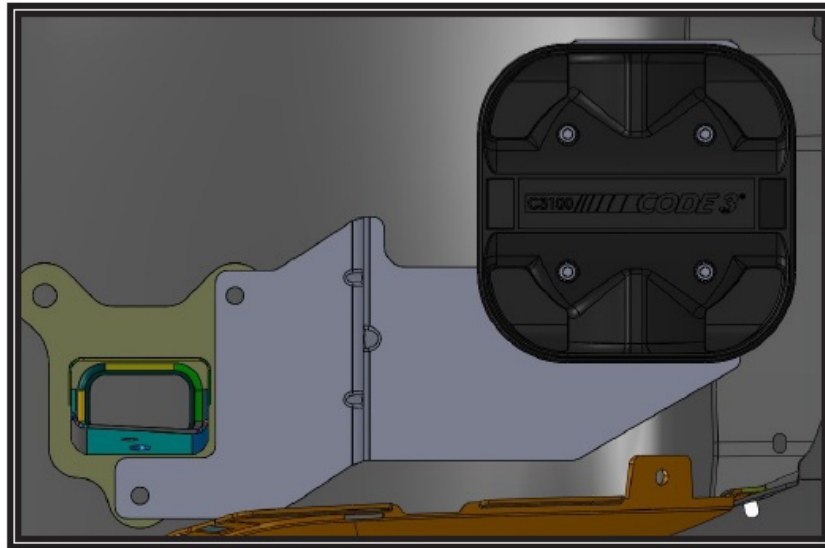

Figure 3
5. Mount the bracket using removed vehicle hardware onto the vehicle. See Figure 3*.